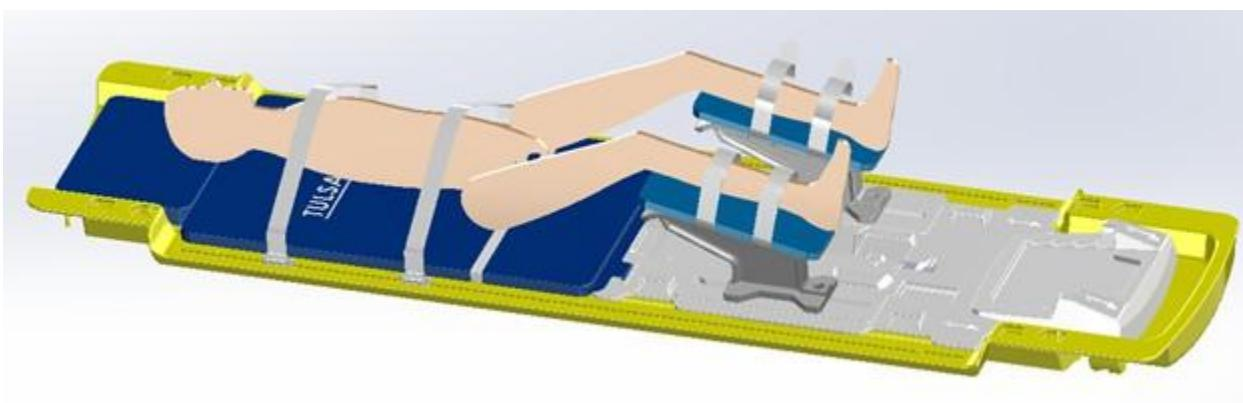

Figure 26: Securing the abdomen and arm straps
1. **MRI Technologist:** Fasten one abdomen arm-strap tightly over the lower abdomen under the patient's arms to minimize anterior-posterior breathing motion. Wrap the sheet over the abdomen and place the patient's hands on top. Fasten a second abdomen-arm strap over the arms to help fit the patient into the MRI bore (*Figure 26*, your configuration might not match exactly as shown).